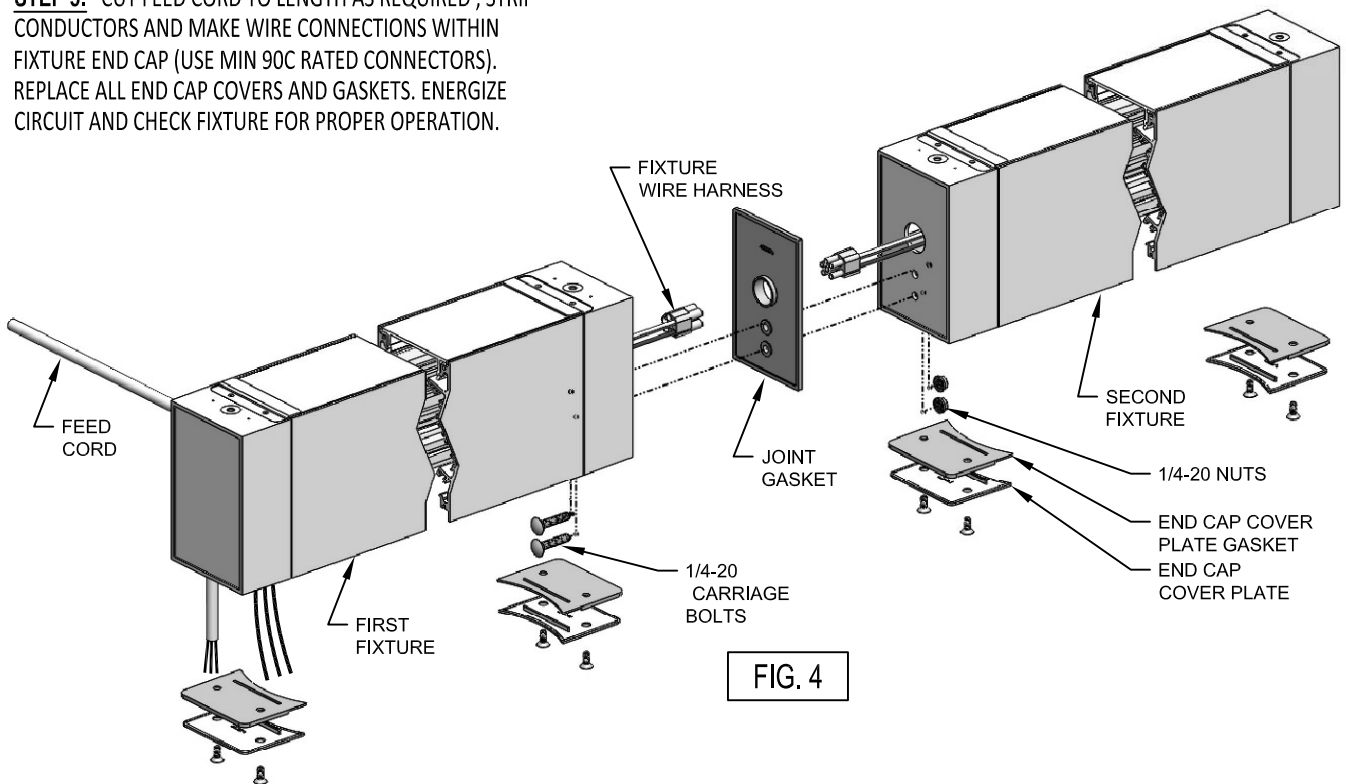

FIG. 4
STEP 2: INSERT JOINT GASKET INTO THE RECESS OF THE JOINT END OF THE SECOND FIXTURE, ALLOWING WIRE HARNESS TO PASS THROUGH THE WIRE WAY HOLE. RAISE SECOND FIXTURE TO A POINT WHERE WIRE HARNESSES MAY BE PLUGGED TOGETHER. CONTINUE TO RAISE FIXTURE SUCH THAT IT IS ALIGNED WITH FIRST FIXTURE AND FIXTURE CLEAT IS ENGAGED WITHIN WALL BRACKET. MAKE SURE TO PUSH EXCESS WIRE FROM HARNESS INTO FIXTURE WIRE WAY CHAMBER AND ENSURE THAT IT IS NOT PINCHED BETWEEN FIXTURES. MOUNT FIXTURE TO WALL BRACKET WITH MOUNTING SCREWS (TOP AND BOTTOM). (FIG. 4)